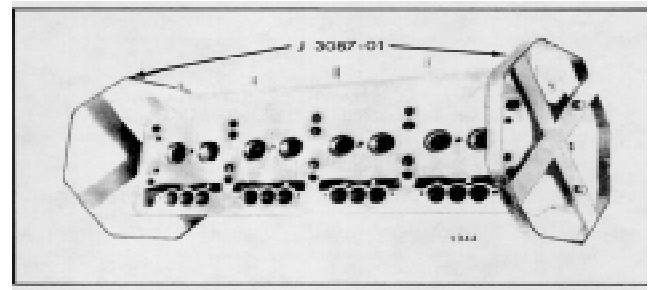

Fig. 8 - Cylinder Head Mounted on Holding Plates
15. Place the cylinder head on its side and remove the engine lifter brackets and gaskets. Then attach the cylinder head holding plates J 3087-01 (Fig. 8) to raise the head above the work bench.